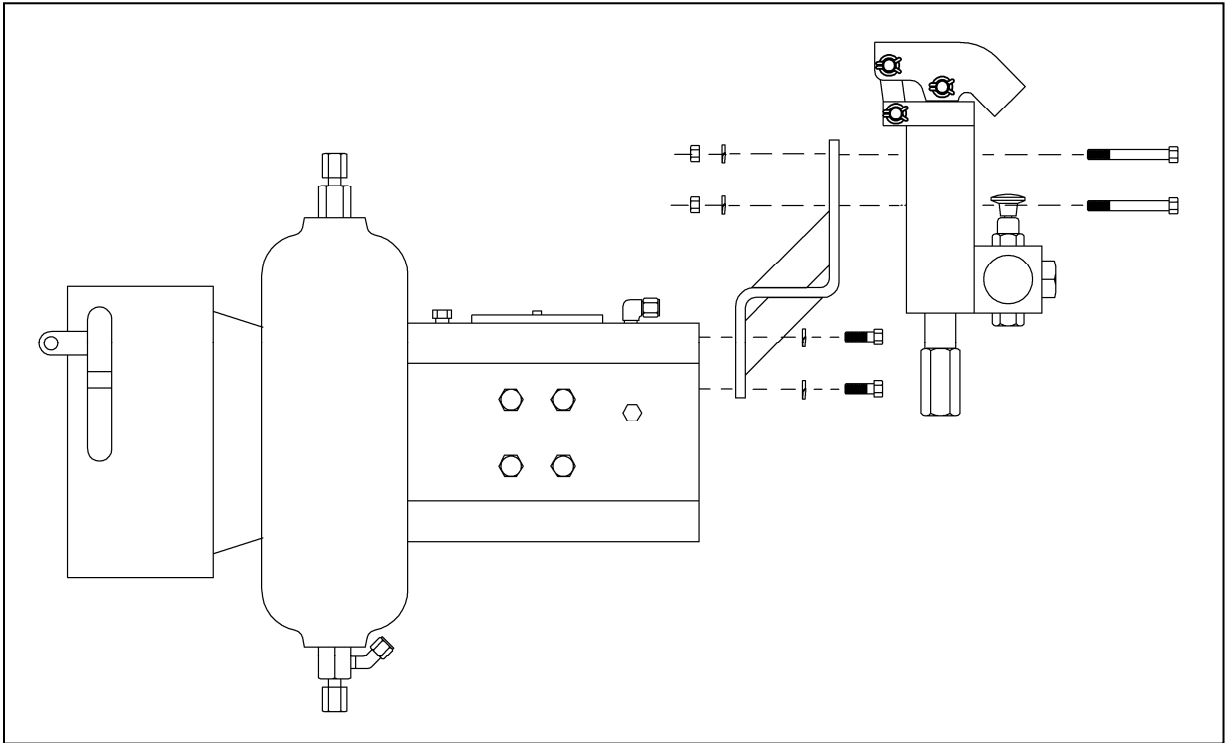

Figure 3: Installation of new hand pump
5. Install the new universal hand pump mounting bracket using the mounting holes for the old hand pump. (See Figure 3)
6. Install the new hand pump. (See Figure 3)